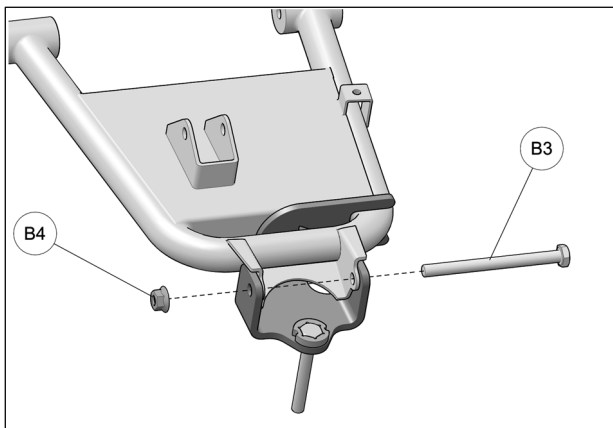

Fig. 7
- Insert new M10x120mm bolt (B3) through anchor bracket, suspension arm and wheel knuckle. Secure assembly with the provided M10 nut (B4). Torque nut to 50 N•m [37 lb•ft]. See Fig. 7